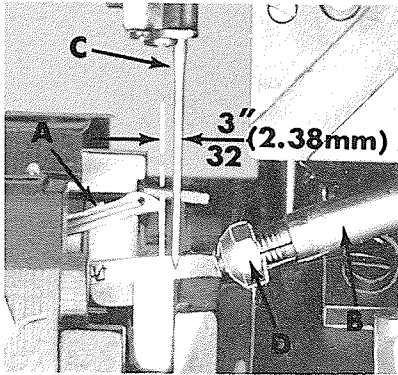

Fig. 8
Insert the lower looper (A, Fig. 8) into bar (B). With lower looper at the left end of its stroke, set looper point $\frac{3}{32}$ inch (2.38 mm) from centerline of right needle (C). Set looper point into needle scarf to touch but not deflect, approximately .001 inch (.025 mm) clearance. Adjustment can be made by rocking the looper forward or backward around its shank. Recheck specified lower looper gauge setting and tighten nut (D, Fig. 8). Check for .025 inch (.635 mm) minimum looper clearance under throat plate stitch tongue (see sketch). Add .009 inch (.229 mm) shims No. 39880 J under throat plate support bracket if needed, but not to exceed two shims. For proper setting, looper point should be at or slightly below center of needle scarf. Needle height may have to be changed if more than one shim is used.